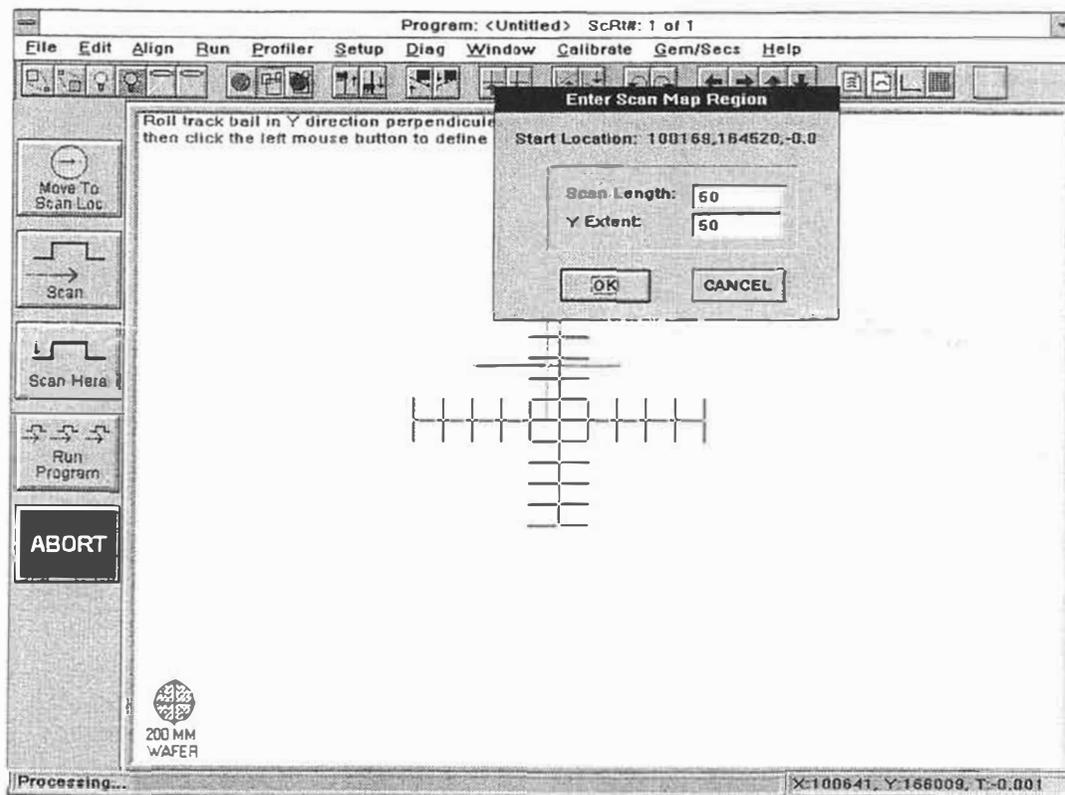

Figure D-1. Enter Scan Map Region Dialogue Box
3. Using the software reticule as a reference, roll the trackball along the scan direction to determine the length of the scans used in the map, and click-on the left button of the trackball. Next, roll the trackball perpendicular to the scan direction and click-on the desired location to define the Y extent of the map. The Enter Scan Map Region dialog box will be displayed (Figure D-1).